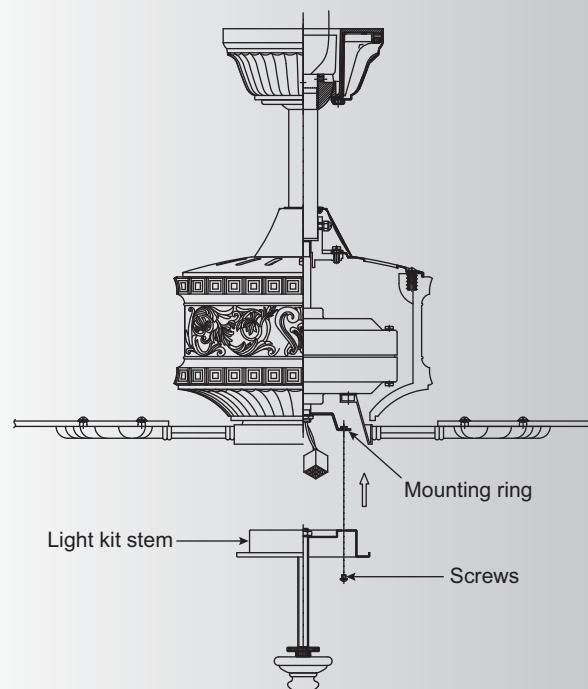

Fig. 15
1. Loosen the two screws on the mounting ring attached to the motor shaft and "remove" and save the third screw. (Fig. 15)
2. Place the key holes on the light kit stem over the 2 screws previously loosened from the mounting ring, turn light kit stem until it locks in place at the narrow section of the key holes. Secure by tightening the 2 screws previously loosened and the one previously removed. (Fig. 15)